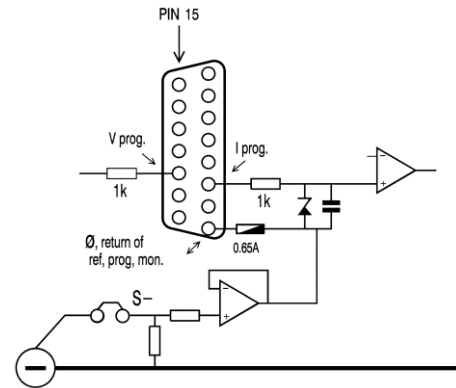

fig 3 - 4
- For the other units, the inputs have a protection circuit formed by a series resistor and a parallel zener (see fig. 3 - 4). The capacitor limits the speed to a safe value. **Note that the analog inputs (and outputs) are not floating, but the common is connected to the 'minus' DC output terminal.** Wrong connection of  $\emptyset$  can cause earth loops which can trip the fuse. After removing the fault, the fuse will reset (PTC-fuse). For isolated programming see next paragraph.